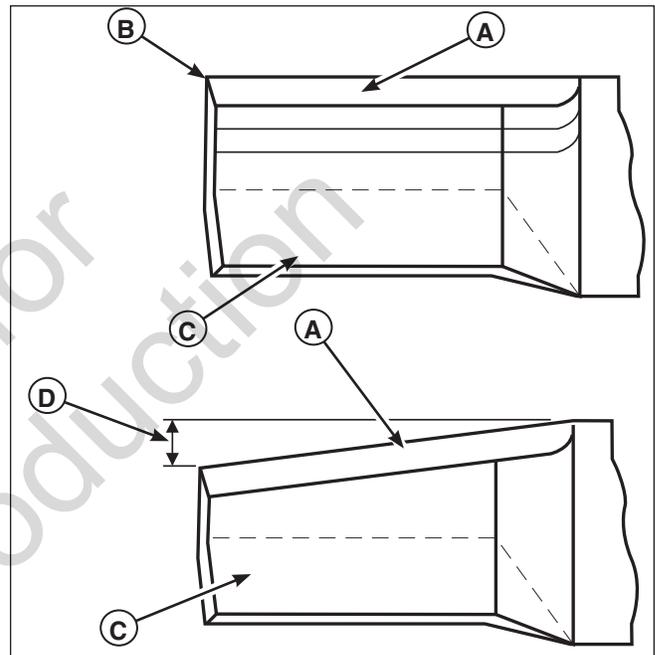

Figure 22. Inspecting the Mower Blade Tips
2. Inspect the mower blade (Figures 22 & 23). Discard the mower blade if it has any of the below conditions:
- A.) Has more than .5" (12,7 mm) of the mower blade metal removed from previous sharpening or wear (D, Figure 22).